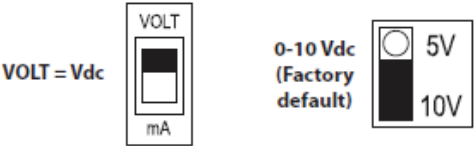

Fig. 70 — SAT/RH Configuration
- Verify that the sensor is set to provide a voltage output and the output voltage is set for 10V. See Fig. 70.